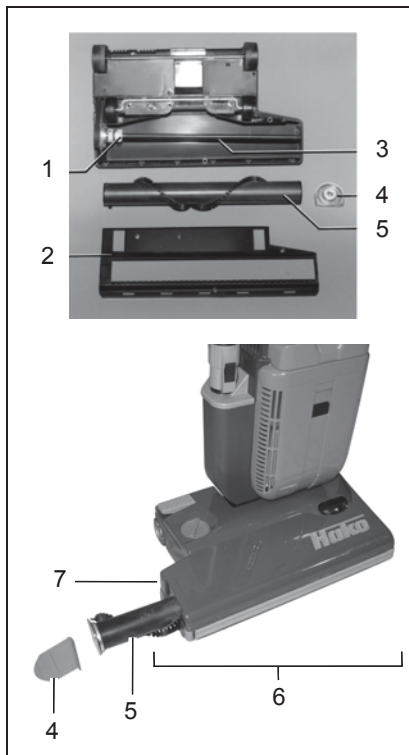
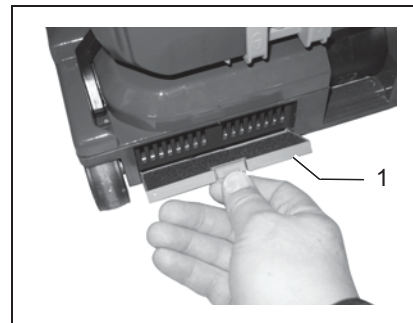

Fig. 10
Fig. 11
2. Remove the brush head (Fig. 10/6).
3. Remove the base plate (Fig. 10/2) by removing the 4 slotted-head screws with a screwdriver.
4. Raise the bearing (Fig. 10/4) and brush roller (Fig. 10/5) far enough so that both parts can be removed from the housing (Fig. 10/7).
5. Pull the brush roller (Fig. 10/5) from the brush shaft (Fig. 10/3).
6. Slide the new brush roller (Fig. 10/5) on the brush shaft (Fig. 10/3). Pay attention that the brush roller (Fig. 10/5) is installed the right way round and the catch engages in the brush.
7. Replace the bearing (Fig. 10/4) and press back in the housing (Fig. 10/7).
8. Screw the base plate (Fig. 10/2) back on.
Finally, open the small flap (Fig. 11/1) at the back of the brush head (Fig. 10/6) and remove any accumulated dirt, if necessary.